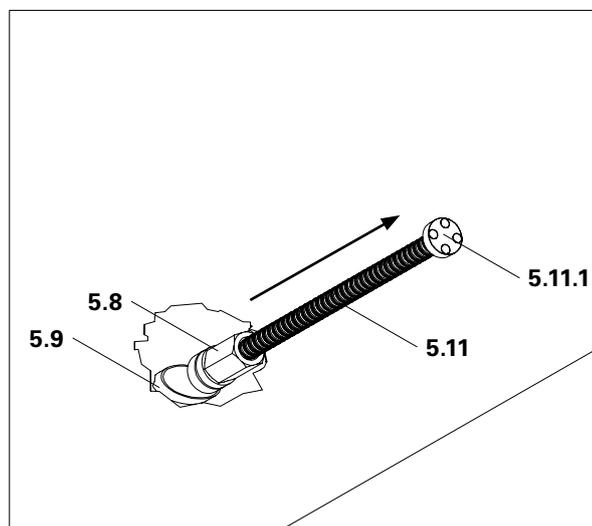

Fig. D2.03
2. Remove the Plug Lock VCB DW 15 (5.8) from the HT-Tube (5.9). (Fig. D2.03)